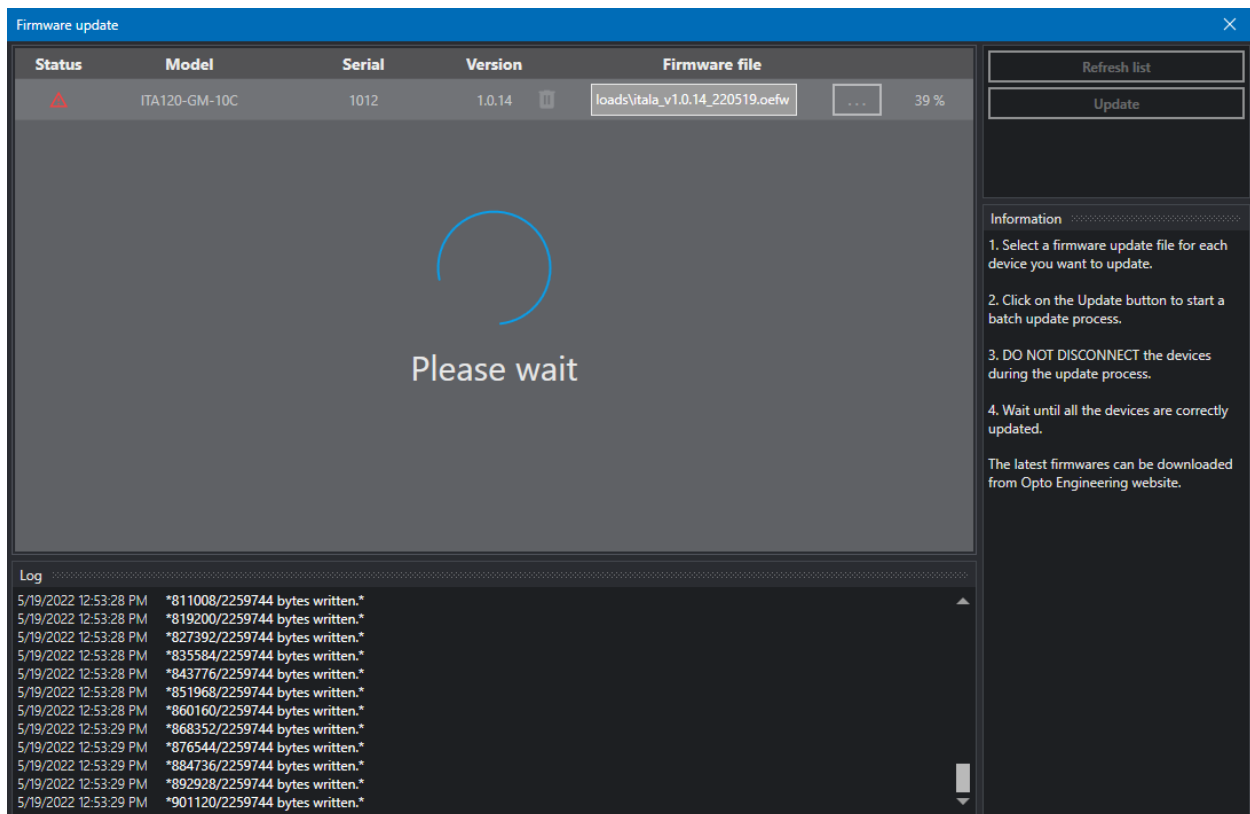

Figure 16: FW update in progress.
3. **Do not disconnect or power down** the devices during the update process (Fig.16).